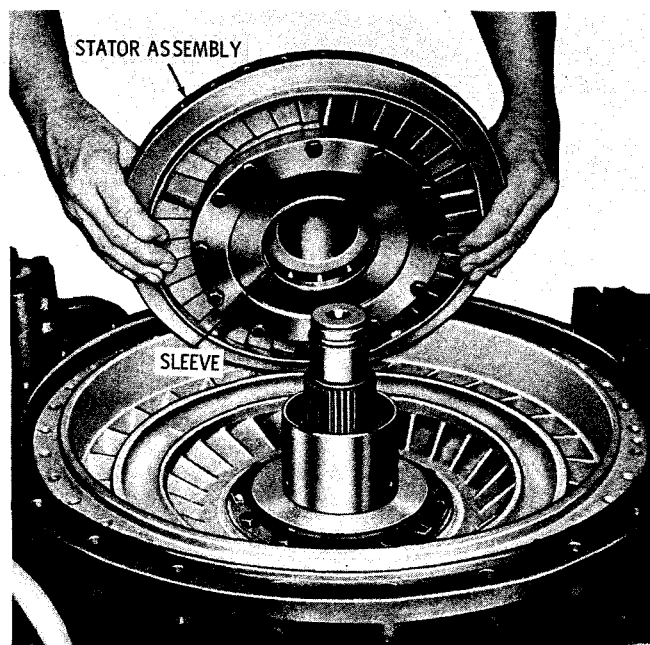

Fig. 7-81. Installing variable-capacity stator assembly S1721
(10) With variable-capacity installation sleeve in place in the stator, install the variable stator assembly, bolt heads down (fig. 7-81). Remove the sleeve after the stator is firmly seated.